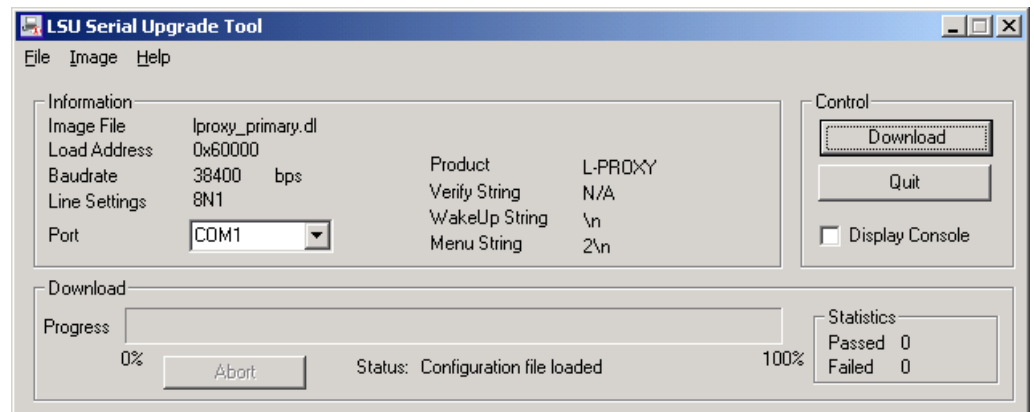

Figure 129: LSU Serial Upgrade Tool in Idle Mode
1. Double click on the *.dlc file that comes with the new firmware package. This should start the LSU Tool and load the firmware image referenced in the dlc file. Please note that the dlc file and the dl file must be stored in the same folder. The start window of the LSU tool is shown in Figure 129.